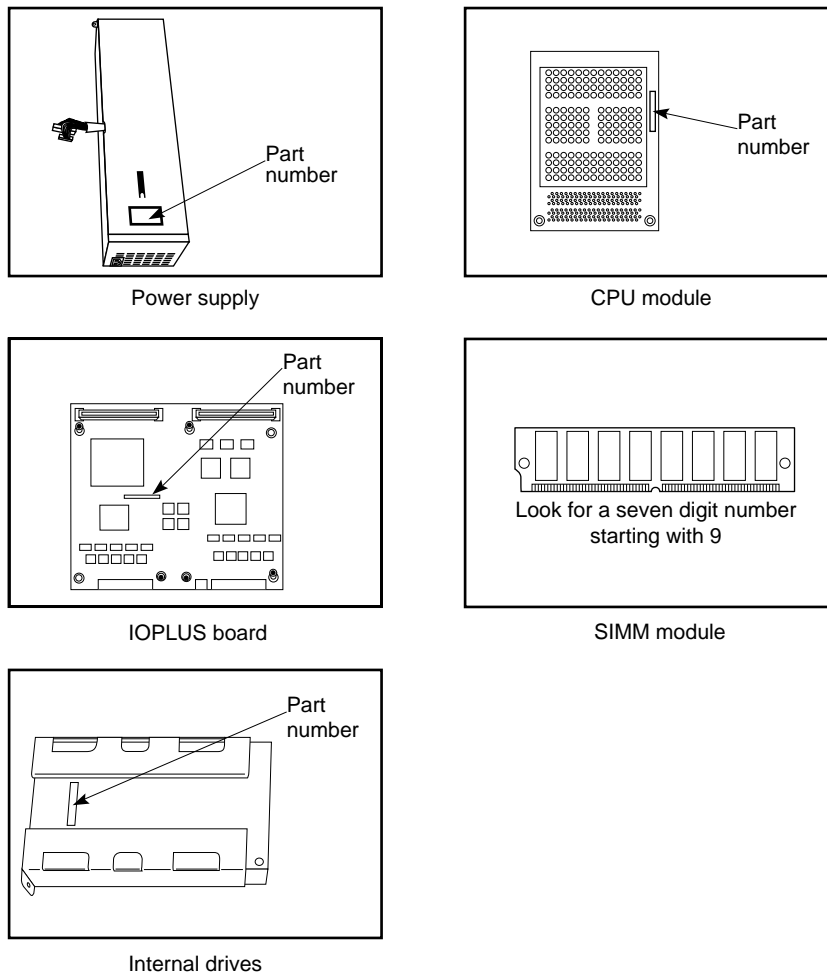
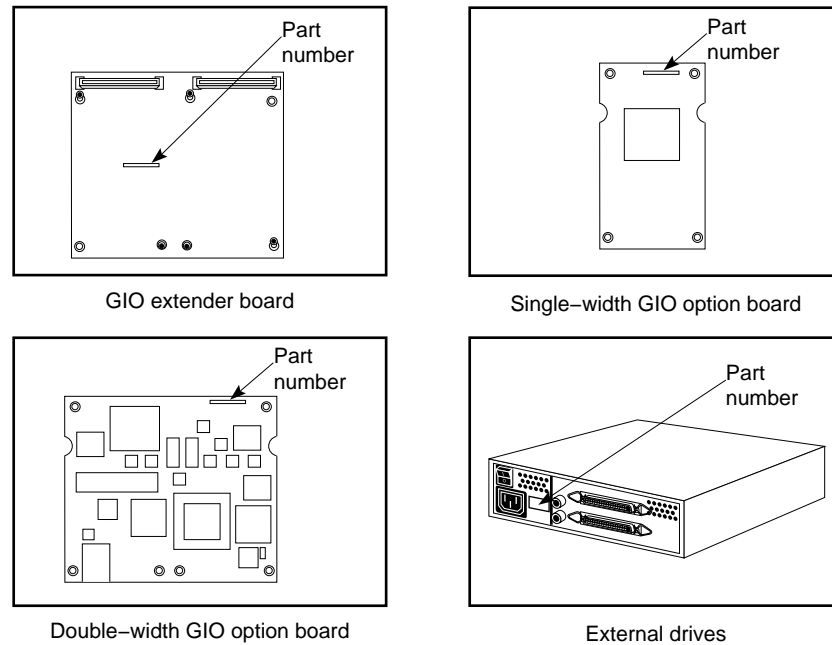

Figure 9-1 Part Number Locations for Standard System Components
Figure 9-2 Part Number Locations for Optional Components
If diagnostics have identified a faulty part, call your service provider. You will be instructed either to order a replacement part, or to ship the system back. If instructed to return the system, go to "Replacing the System" on page 152. If asked to return the part, Figure 9-1 and Figure 9-2 will help you locate the part number of the faulty part.
6. Look the part number of the faulty part; it's shown on the part. (Refer to Figure 9-1 and Figure 9-2.)